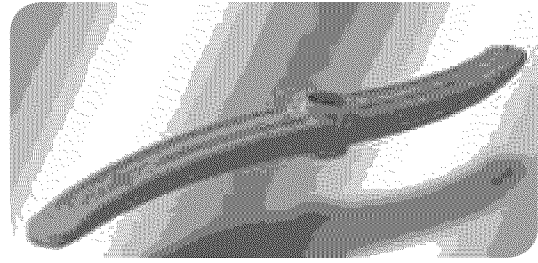

FIGURE 32
3. Remove the spray arm as shown in Figure 32.